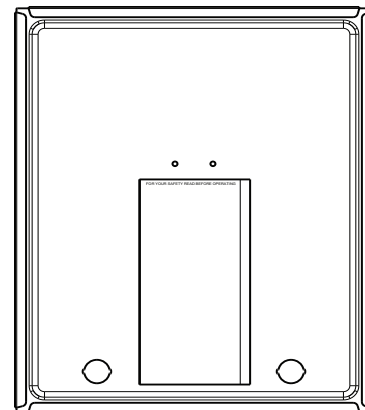

Fig. 30 – Information Booklet Location
4. Remove one of the unused rubber plugs in the port on the collector box opposite the condensate trap. See Fig 30
NOTE: Record the LED status code BEFORE removing the blower access door or turning off 115-v power to the furnace. See the information booklet inside the main furnace door for a service code legend (see Fig. 30).